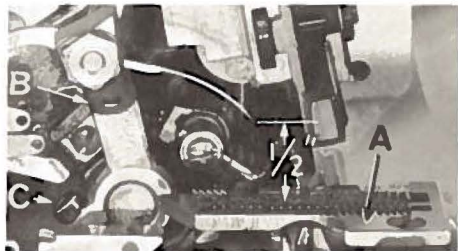

Fig. 3
With throat plate assembled in position, needle should center in the front end of needle slot. When needle is at high position, needle point should be set  $\frac{1}{2}$  inch above throat plate (A, Fig. 3) for styles 39500 FS, FT, FU, GT, and JP;  $\frac{15}{32}$  inch for Styles 39500 GD and GL. To align needle or set the height above the throat plate, move needle driving arm (B, Fig. 3) by loosening clamp screw (C). After needle has been set properly, tighten clamp screw and remove throat plate.